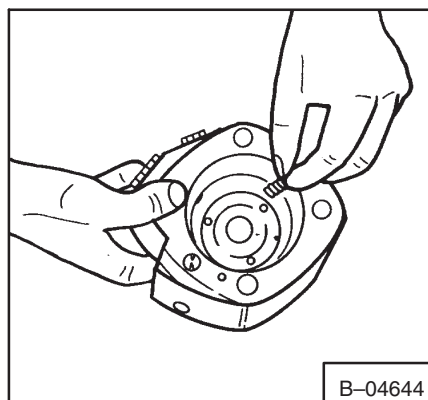

**Fig. 3-73** Installing O-Rings
27. Put grease on the 0.250 inch (6,36 mm) O-rings and install them on the housing (Fig. 3-73).